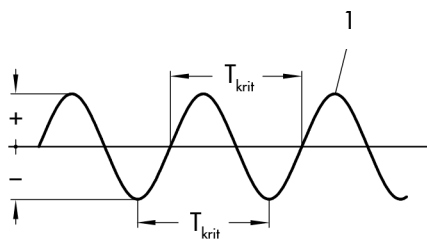

Fig. 16: Harmonic oscillation pattern
9. Starting from a low value, increase the proportional-action coefficient **Kp** until the controlled variable pointer shows an harmonic oscillation pattern (uniform oscillation amplitudes as shown in Fig. 16). If oscillations do not arise with a large **Kp** setting, turn the rotary knob to slightly change the set point and then return it to its former setting. It may be necessary to increase the gain (**Kp**) slightly until an harmonic oscillation pattern arises.